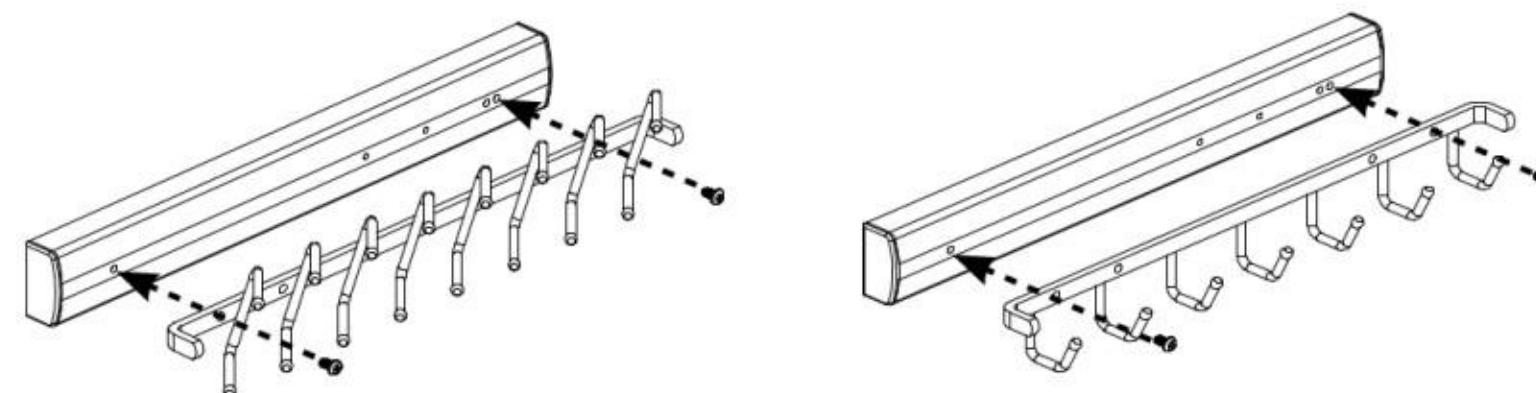

FIG. 2
Fully extend the swivel slide. If using systems holes, attach the inner member to the cabinet sidewall using (2) M6 x 6 mm euro screws. Or measure, mark and pre-drill hole locations and attach to cabinet sidewall with (2) #8 x 32 x 1/2" wood screws (See Figure 2).